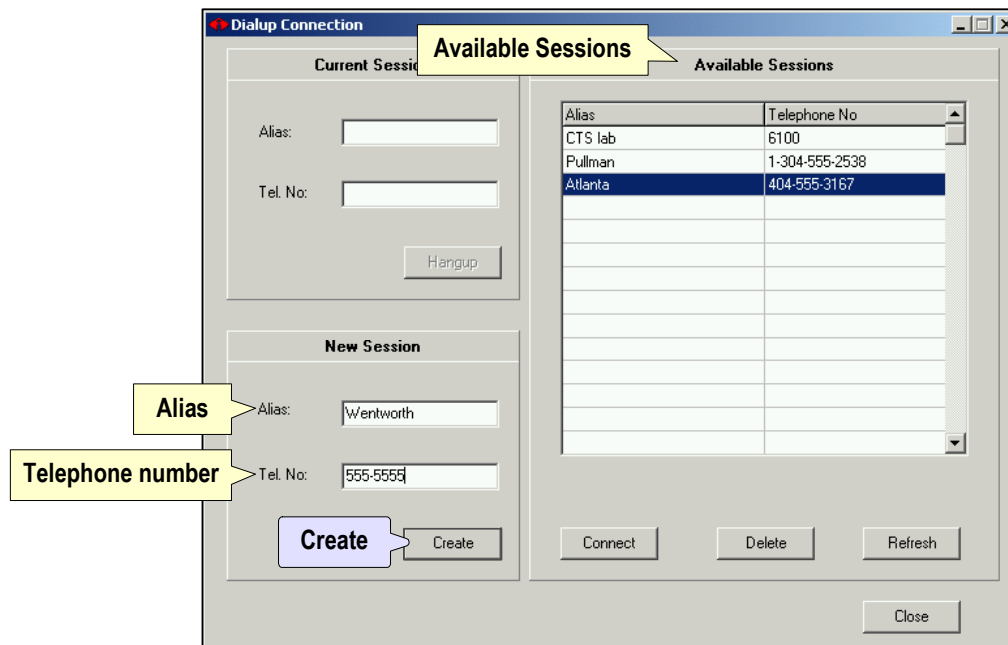

Figure 10 – Create a new session
The **Dialup Connection** window (Figure 10) appears.
- 5 To add a dial-up location, complete the fields under **New Session** and click **Create** (Figure 10).